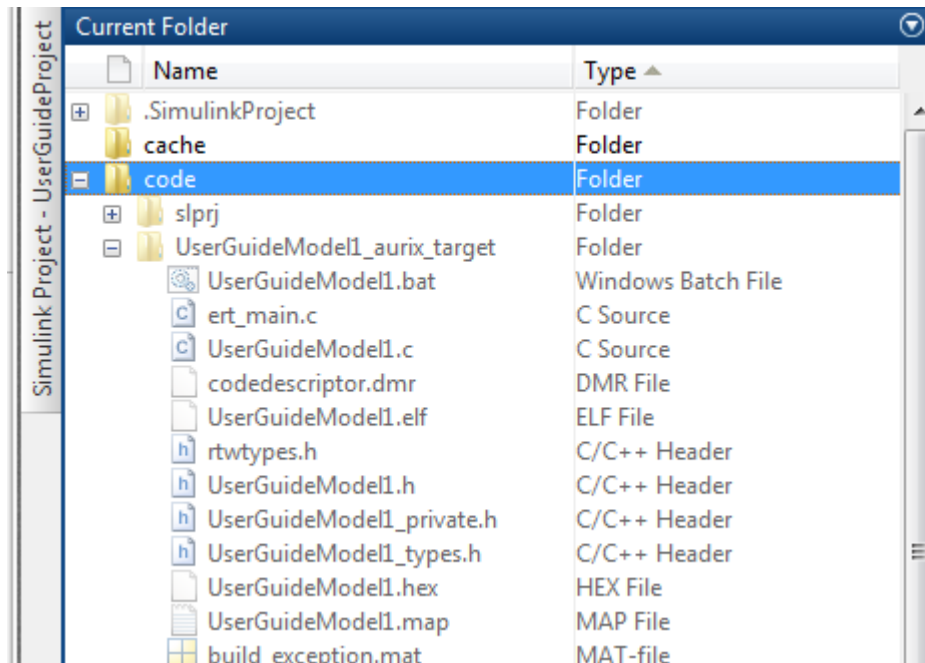

Figure 14 Output Files After Build
10. If using a debugger, the output files are found in the code folder as shown in Figure 14. There is a subfolder which is named according to the Model name, in this case it is "UserGuideModel1_aurix_target"; in particular this contains the .elf and .hex files. This user guide does not cover the use of debuggers.